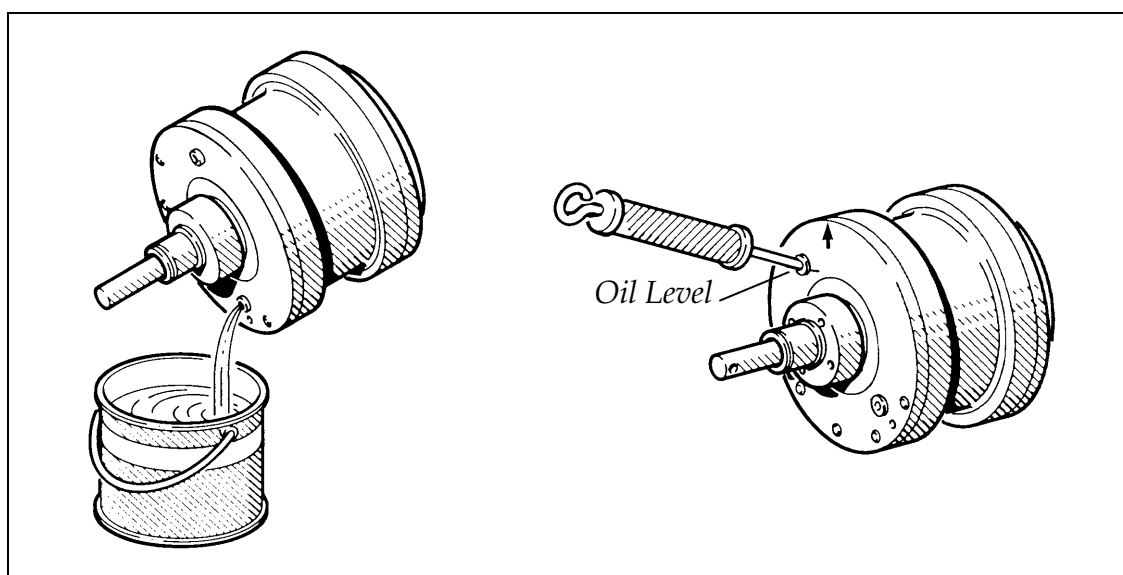

Figure 3.8.3
3.8.3 Gearbox (Fig. 3.8.3)
Then refill the gearbox with oil of the quality given in the lubrication table. To check the oil level, rotate the gearbox until its arrow marked "UP" points straight up. The oil surface inside the gearbox should then level with the upper drain hole (see level indication mark in Figure 3.8.3 below).